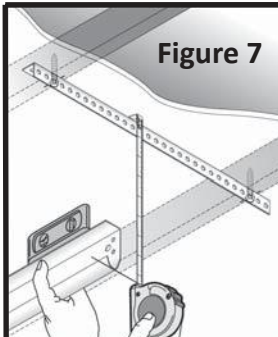
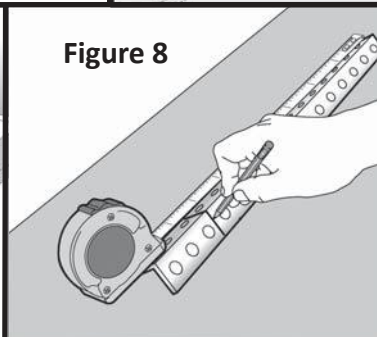
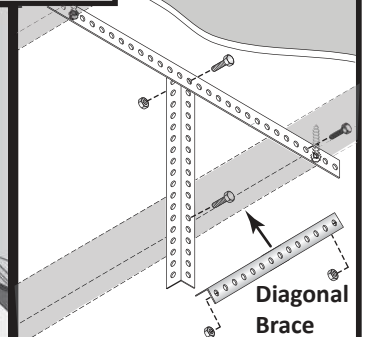

Figure 7
Figure 8
Figure 10
**Step 3:** Mark and cut a piece of angle to span the distance between the ceiling joists/beams plus 4" (Figure 8 & 9).
**Step 5:** Measure the distance from the bottom of the Horizontal Track to the top of the angle (Figure 7). Mark and cut a piece of angle this distance (Figure 8 & 9).
**Step 6:** Mark and cut a piece of angle to form a 45° brace (Figure 8, 9, & 10). This piece should be about the same length as the piece in Step 5. Securely fasten the Back Hanger Angles using (3) 3/8"x1-1/2" Machine Bolts and (3) 3/8"-16 Hex Nuts as shown in Figure 10.